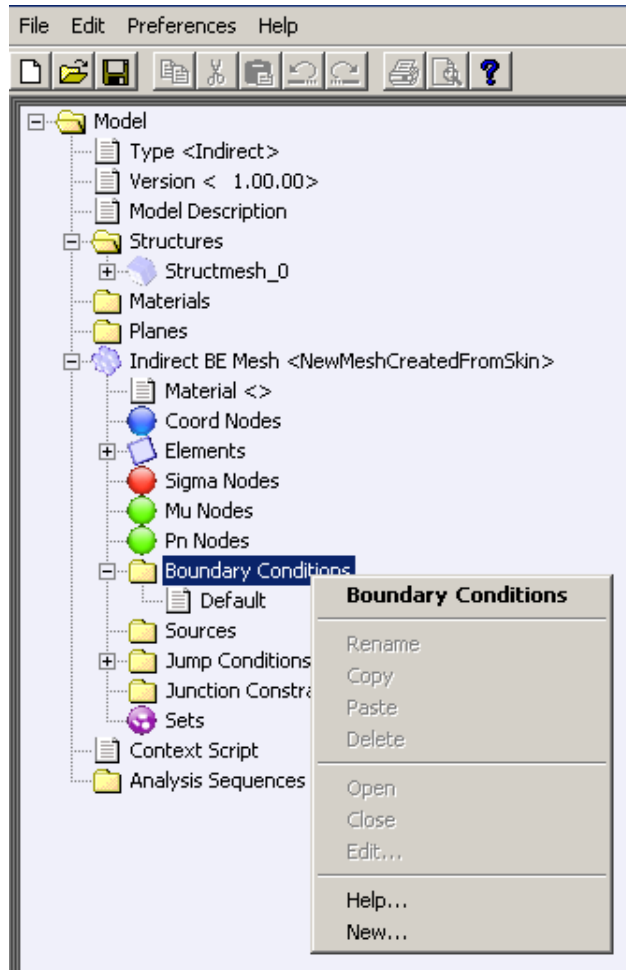

Figure 4.25 Create Boundary Conditions
- **Define a New Boundary Condition** Right-click on **Boundary Conditions** and select: **New** and proceed with entering new parameters information. Click OK to accept. (Figure 4.25).